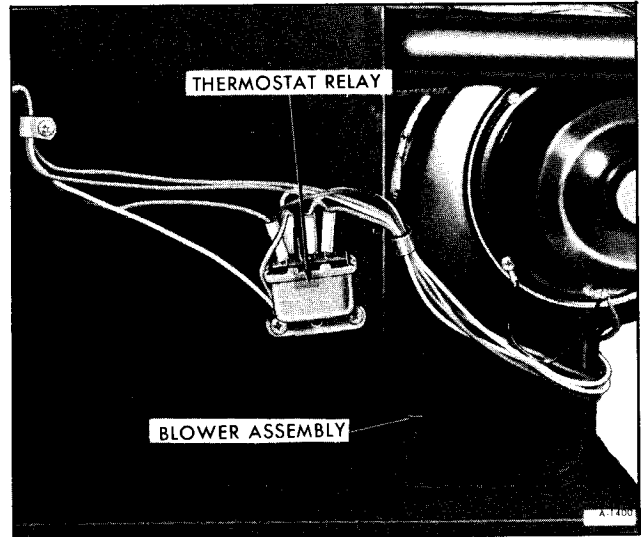

Figure 34-Thermostat Relay
2. Disconnect wires at thermostat relay (right side on TYPE I FURNACES, left side on TYPE II FURNACES) (See figure 34).
2. Connect wires to thermostat relay shown in Figure 34.